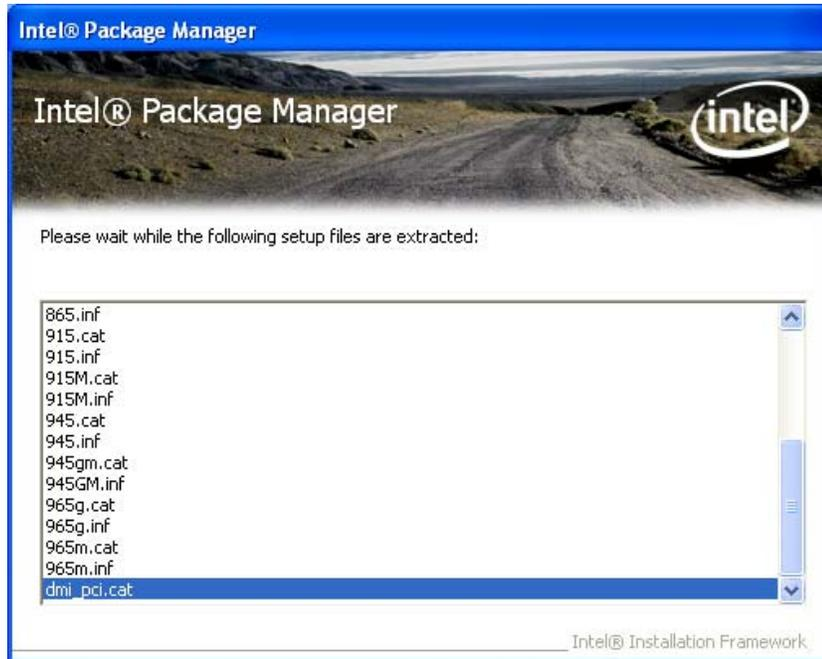

Figure 6-4: Chipset Driver Screen
Step 3: The setup files are extracted as shown in **Figure 6-4**.